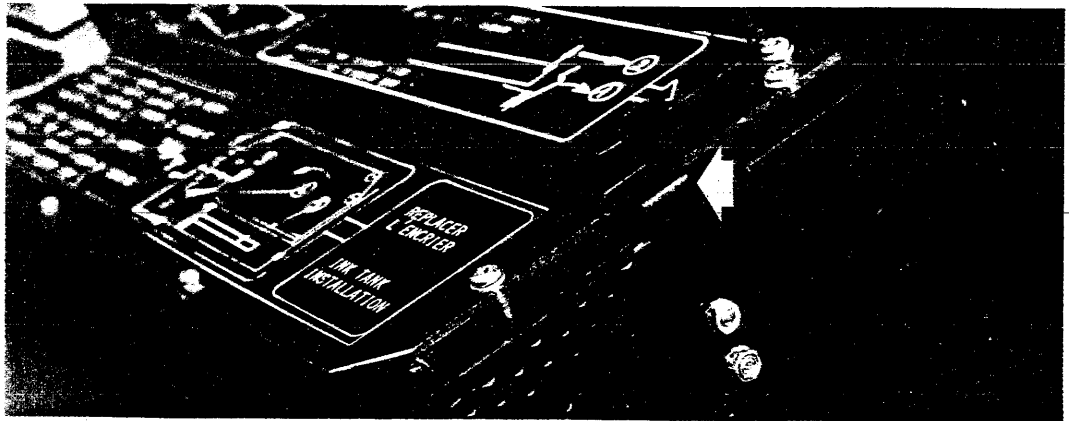

Figure 3-9. Ribbon Refill Cartridge Release Tab
4. Unlatch the ribbon refill cartridge release tab at the right (Figure 3-9), lift the cartridge from the right and remove it from the printer.